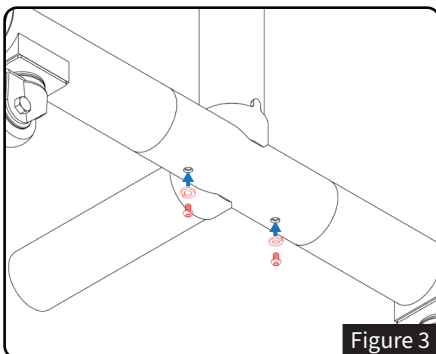

Figure 3
- Reinstall the hardware and hand-tighten. See *Figure 3*.
- Repeat for the remaining (3) **Castors (A)**.